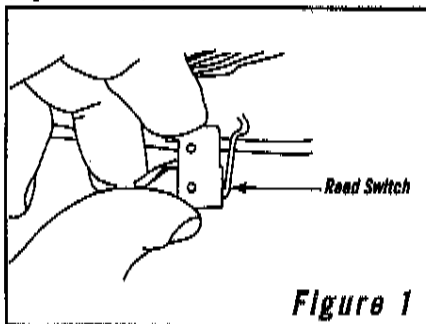

Figure 1
- 3) For Models T81 -T84/CST 3.5 & 4.5/DT850 & 850/WT850 Only – Unplug and remove reed switch from small plastic knobs. (Figures 1 & 3)